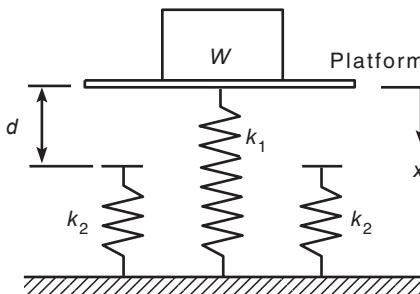

Figure P20
20. Figure P20 shows a mass-spring model of the type used to design packaging systems and vehicle suspensions, for example. The springs exert a force that is proportional to their compression, and the proportionality constant is the spring constant k . The two side springs provide additional resistance if the weight W is too heavy for the center spring. When the weight W is gently placed, it moves through a distance x before coming to rest. From statics, the weight force must balance the spring forces at this new position. Thus